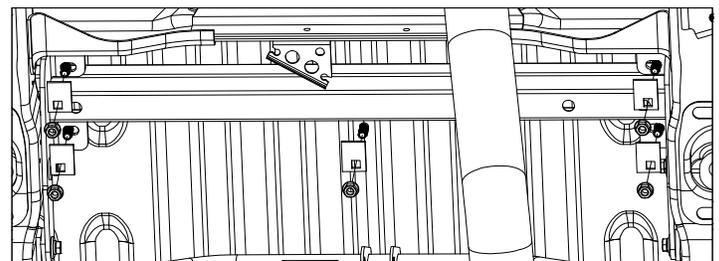

FIGURE B5: View looking up at bed.
4. **Fasten the forward mounting rail.** Install an offset square hole washer and 1/2" flange nut on each of the carriage bolts passing down through the bed as shown in Figure B5. Do not fully tighten at this time.